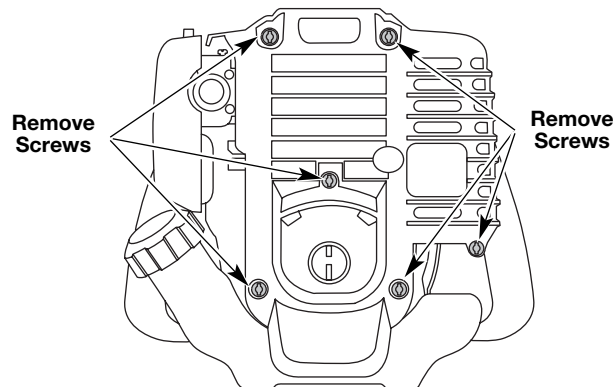

Fig. 27
- Remove the six (6) screws on the back of the engine cover with a Flat-head or T-25 Torx screwdriver (Fig. 27).
- Remove the engine cover (Fig. 27).